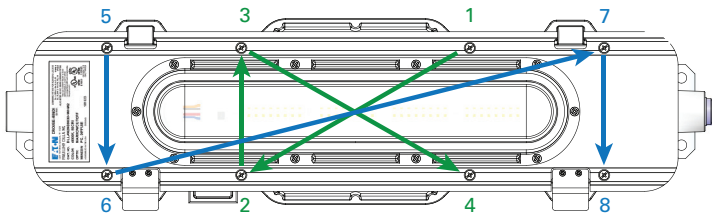

Figure 1. DLLA2 Driver housing screw locations
2. Ensure all driver cover screws are free from driver housing (see Figure 1). Screws are a captive type and should not be fully removed from the light engine assembly.
14. Re-position LED light engine fitting using latching clips. Verify that no luminaire wiring is pinched or trapped between light engine and driver housing. Start all screws prior to tightening making certain none are cross threaded. Finish tighten all eight (8) cover mounting screws to a torque of 23 in.-lbs. (2.6 N-m) using the bolting sequence directed in Figure 1.